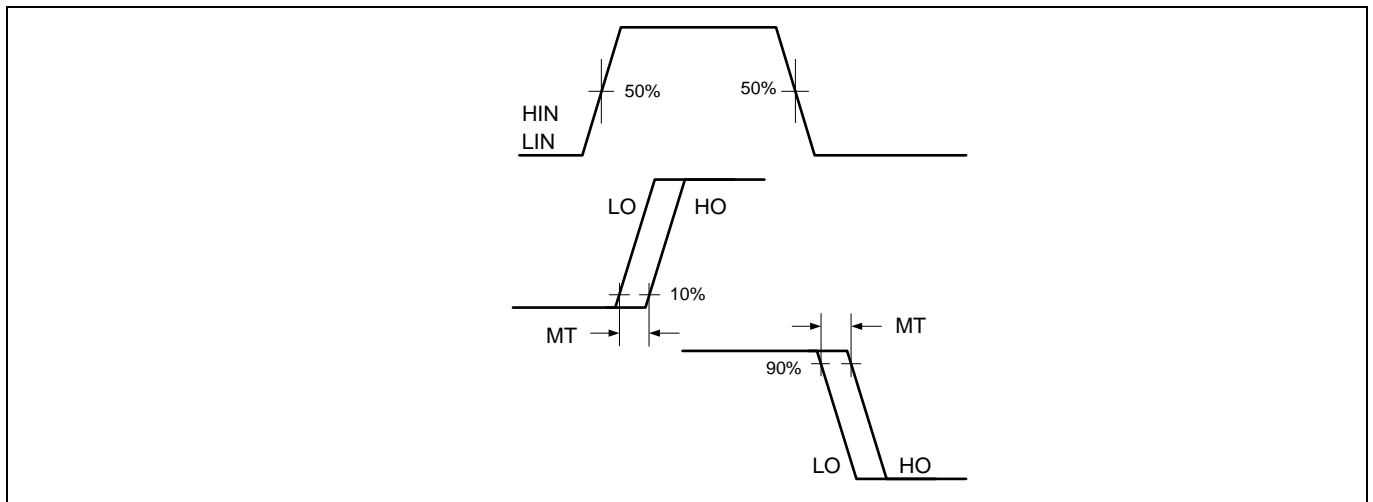

Figure 5 Delay matching waveform definition
IGI60L2727B1M is designed with propagation delay matching circuitry. With this feature, the integrated gate driver IC's response at the output to a signal at the input requires approximately the same time duration (i.e., t_{ON} , t_{OFF}) for both the low-side channels and the high-side channels as shown in Figure 5. The maximum difference is specified by the delay matching parameter (MT). The propagation turn-on delay (t_{ON}) of the integrated gate driver is matched to the propagation turn-off delay (t_{OFF}).